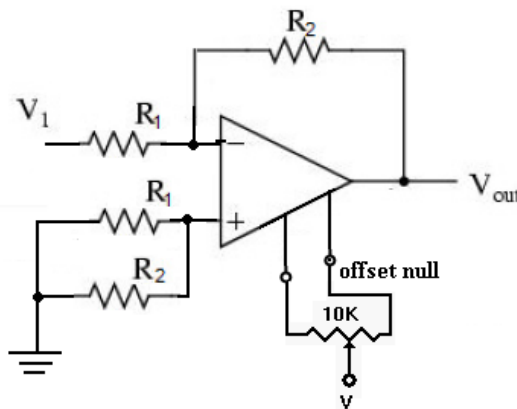

Figure 7.4
1. Implement the circuit shown in figure 7.4.